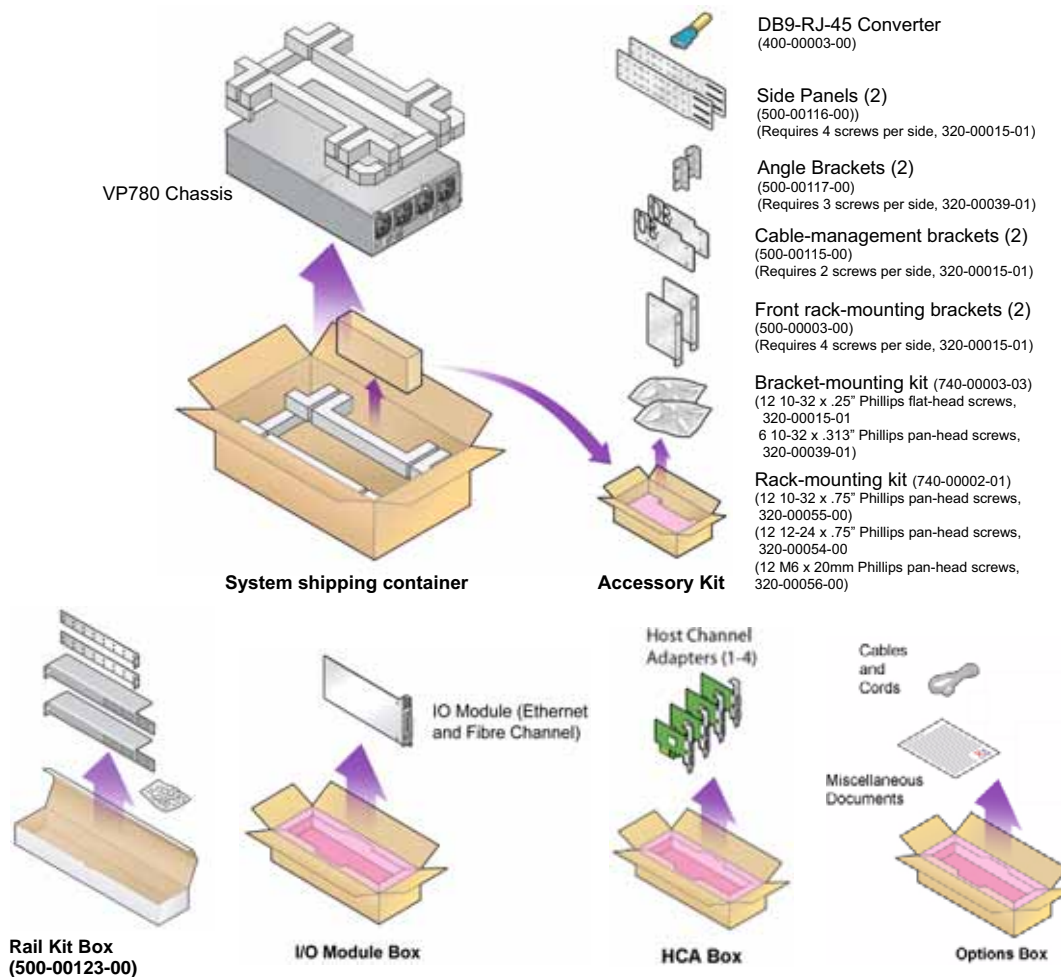

Figure 1 Unpacking Shipping Containers and Examining Contents
Step 2 Open the containers and verify their contents against the illustration in Figure 1 on page 8.